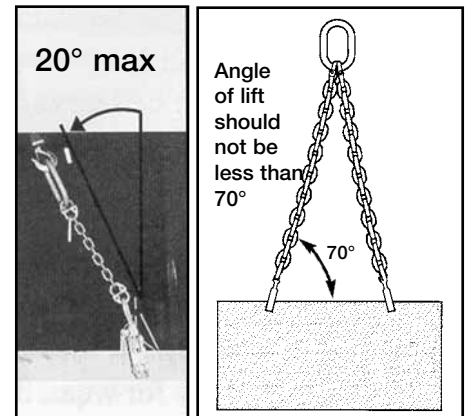

Figure 33
- B. The lifting angle (Fig. 32) between the sling legs on opposite sides of the load should be less or equal to 60 degrees. The lifting angle (Fig. 33) between the sling legs on same side of the load should be less or equal to 40 degrees.
Position the clamp(s) to balance the load. Position the clamp(s) so the lifting force of the crane is directly in line with each clamp's lifting shackle, and the load is evenly distributed (Fig. 33).